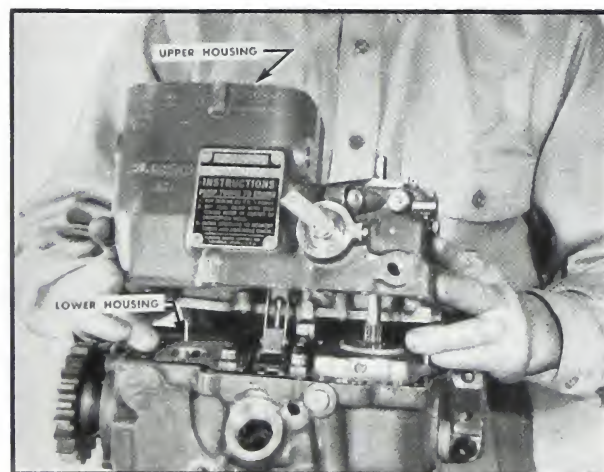

Fig. 5-194. Removing upper housing
3. Using one hand inside the governor housing to hold up the vertical lever, lift off the upper housing. Fig. 5-194.
2. Unscrew the manual shut-down spring cap and remove gasket, spring and shut-down retainer. Fig. 5-194.